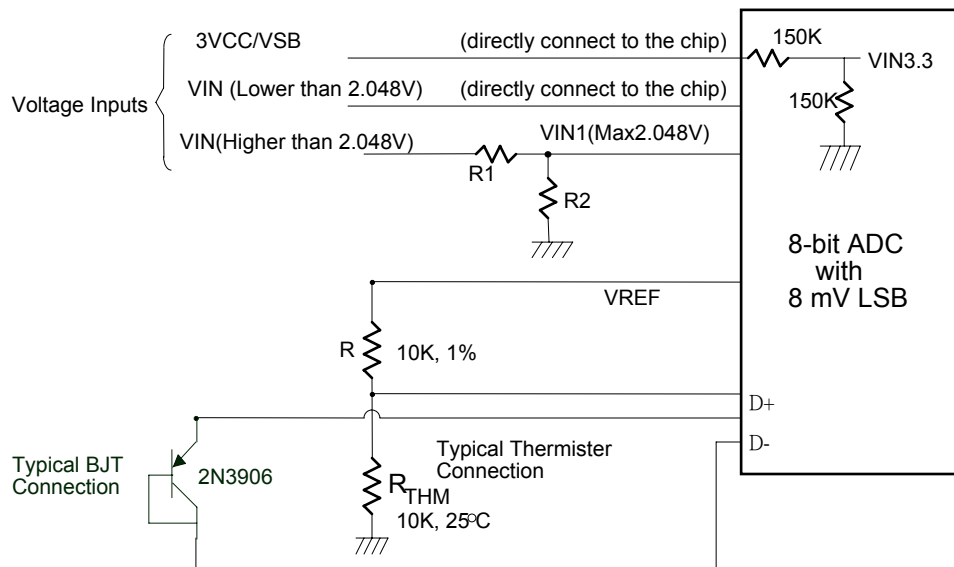

Figure 2. Hardware monitor configuration
The F71869A can connect three thermistors to measure environment temperature or remote temperature. The specification of thermistor should be considered to (1)  $\beta$  value is 3435K (2) resistor value is 10K ohm at 25°C. In the Figure 2, the thermistor is connected by a serial resistor with 10K ohm, then being connected to VREF.
Also, if the CPU, GPU or external circuits provide thermal diode for temperature measurement, the F71869A is capable to these situations. The build-in reference table is for PNP 2N3906 transistor. In the Figure 2, the transistor is directly connected into temperature pins.